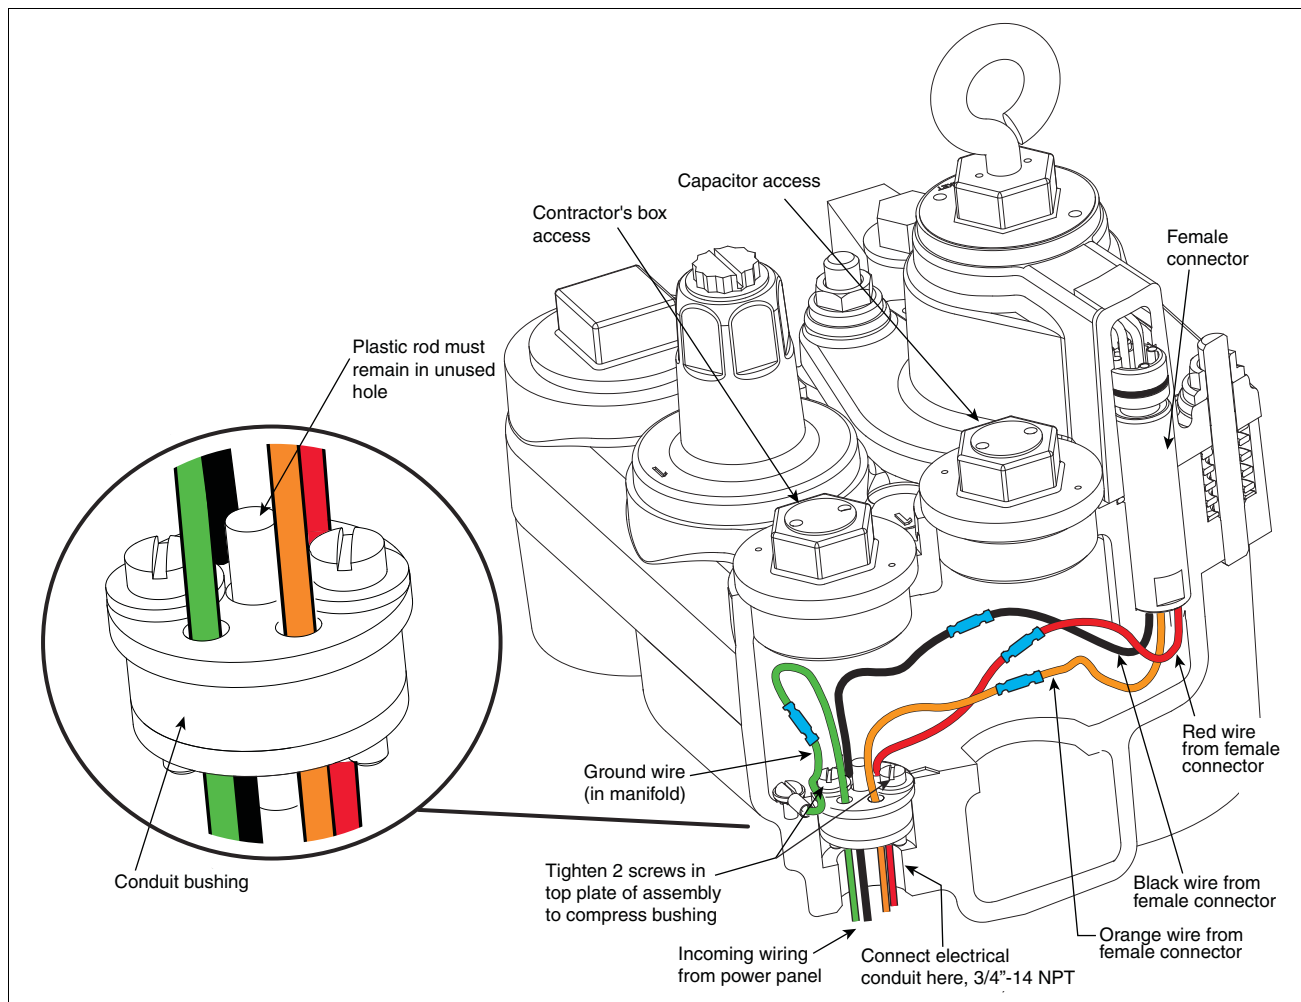

Figure 14. Power Wiring Enters Through Compression Bushing
1. Connect electrical conduit approved fittings to power wiring entry at base of manifold's contractors box 3/4"-14 NPT (5 threads minimum engagement) (see cutaway example in Figure 14 for three phase power wiring).
2. Loosen the two screws in the compression bushing just enough so you can remove the bushing from its socket in the bottom of the manifold's contractor box (see Figure 14). Continue lifting up the bushing until it is accessible. Notice that the top plate of the bushing assembly (facing into the manifold) has a larger diameter than the bottom plate, and that there are two open holes and three holes with plastic rod inserts. The plastic inserts seal the bushing and must remain in any unused hole. For example, bringing three wires from the power panel, use the two empty holes and remove and discard one of the two smaller diameter plastic inserts for the third wire. Push each of the incoming power wires through the empty holes in the bushing assembly. Slide the bushing assembly down over the power wires until it seats in its socket in the base of the manifold's